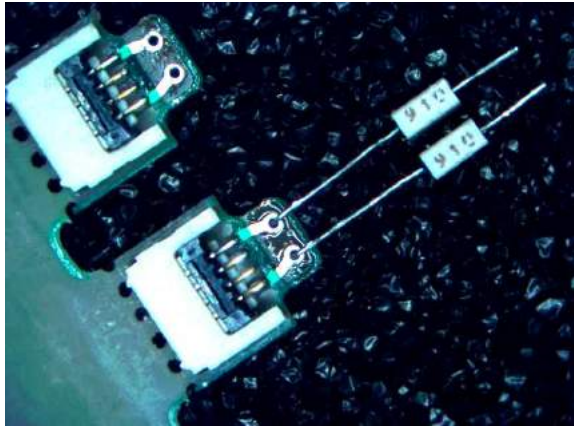

Figure 99 Resistors Inserted into Tip
- 6 Insert one resistor into each through-hole of the circular traces on the board. Align the corresponding resistor faces as shown in Figure 99. Make length adjustments as needed.